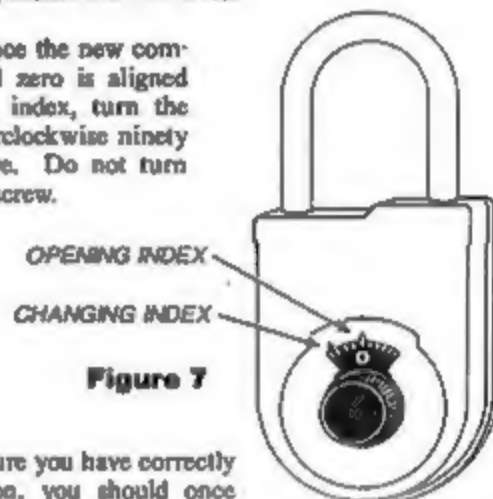

Figure 7
• Step 10 – With the reset key in the padlock, turn the dial left (counterclockwise) until "25" aligns with the **changing index** (Figure 7) the fourth time.